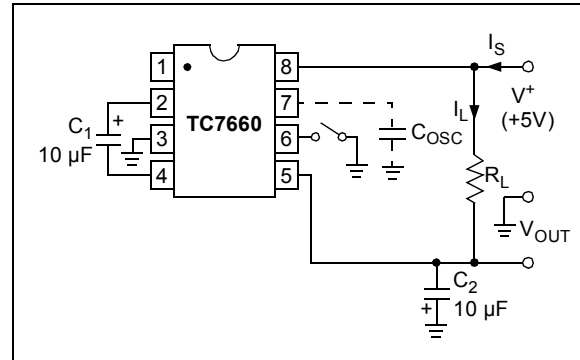

FIGURE 1-1: TC7660 Test Circuit.
**Electrical Characteristics:** Unless otherwise noted, specifications measured over operating temperature range with  $V^+ = 5V$ ,  $C_{OSC} = 0$ , refer to test circuit in Figure 1-1.
**Note:** Unless otherwise indicated,  $C_1 = C_2 = 10 \mu\text{F}$ ,  $\text{ESR}_{C1} = \text{ESR}_{C2} = 1 \Omega$ ,  $T_A = 25^\circ\text{C}$ . See Figure 1-1.